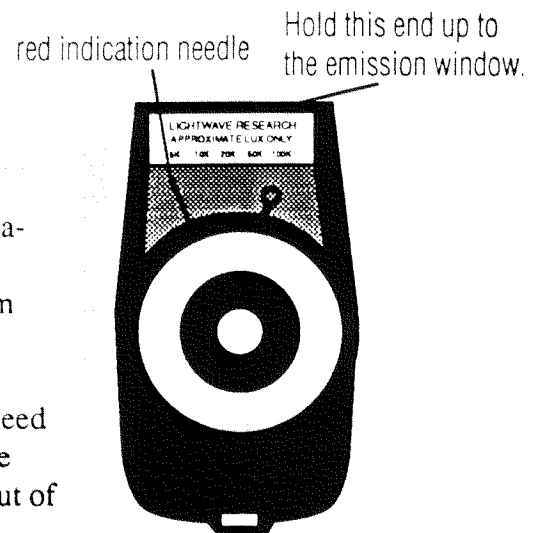

**Figure 2.15 Proper appearance of the
15. The results of a good optimization process should look similar to the illustration at the right. (See Fig. 2.15) The brightest point of light should be directly over the pinhole aperture.